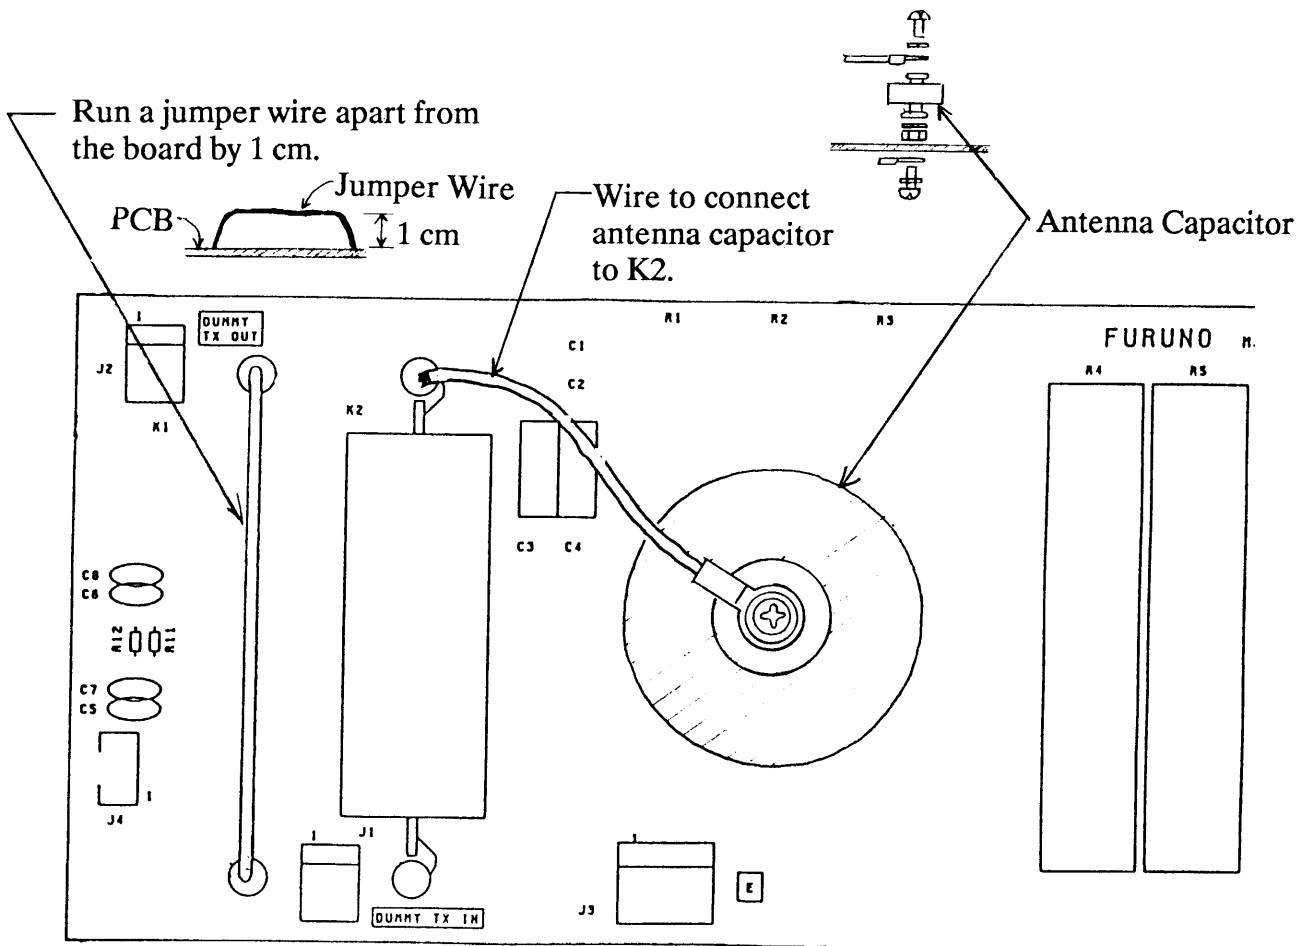

Fig. 5 DUMMY LOAD Board (Parts Side)
3. Drill fixing hole for antenna capacitor. See Fig. 5.
5. Referring to Fig. 5, fix antenna capacitor to board.